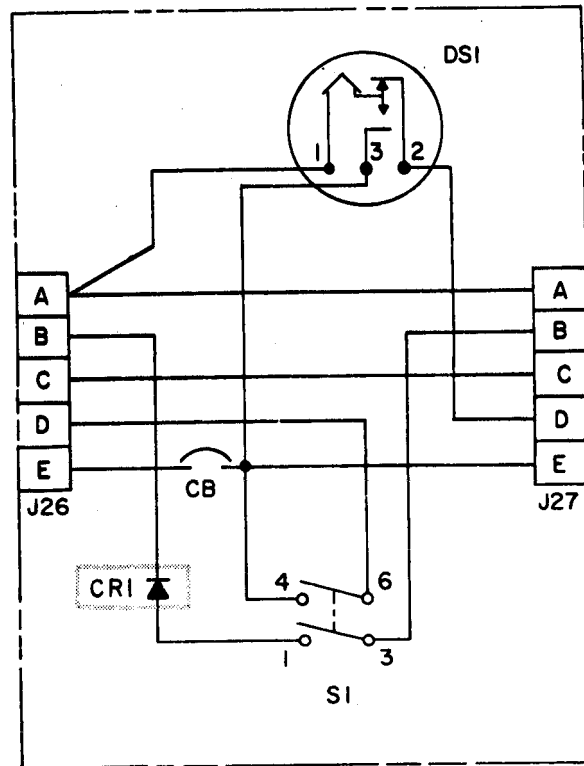

Figure 4-4. Fuel burning winterization kit control box schematic
2. Refer to figure 4-4 and check control box for continuity with switch and circuit breaker in each functional position. Replace defective control box.